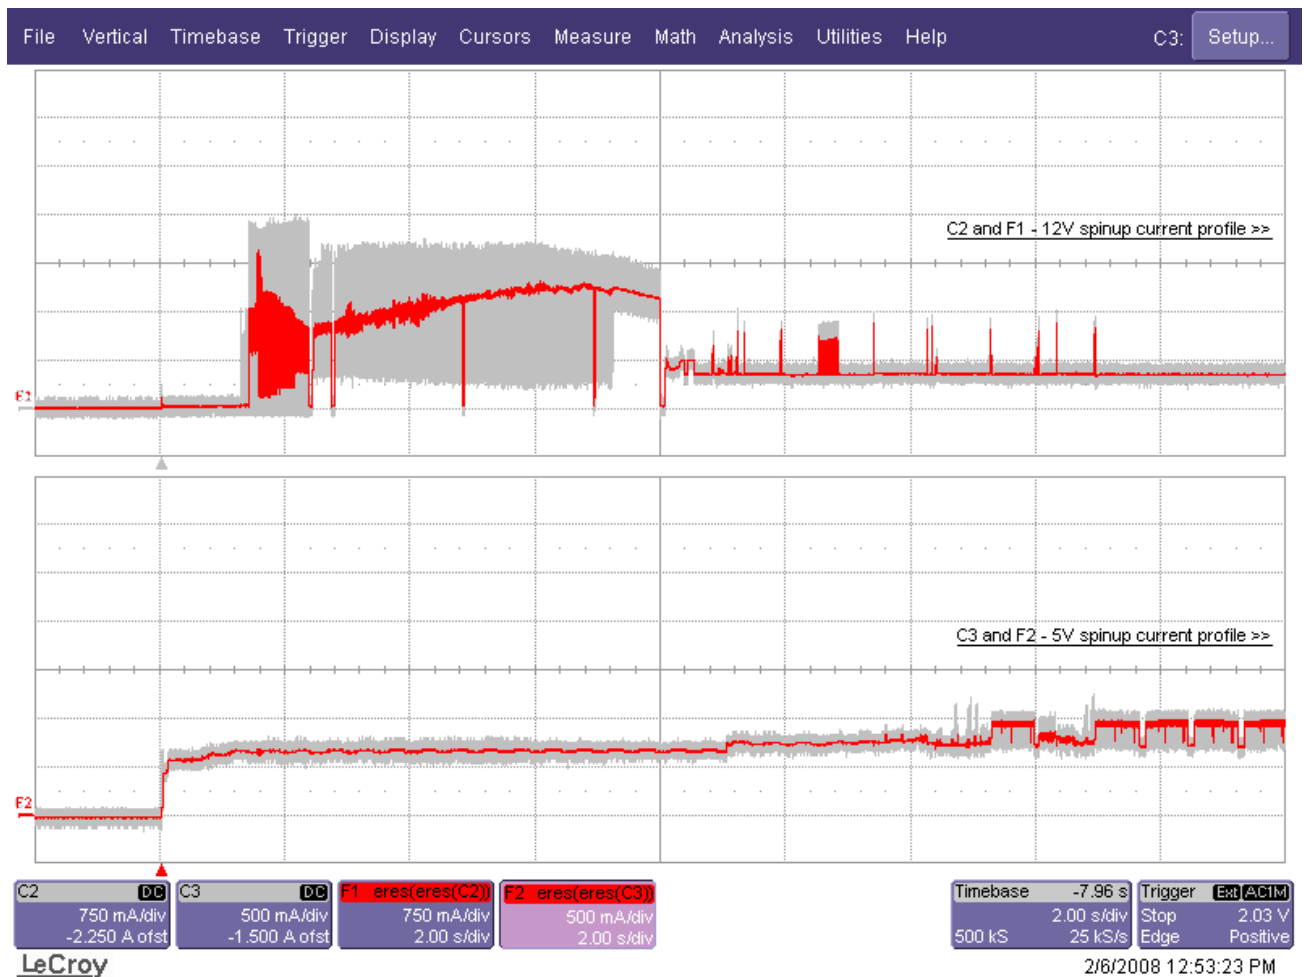

Figure 1. Typical ST31000640FC drive, 4 Gbit, +5V and +12V current profiles
- [3] See +12V current profiles in Figure 1.